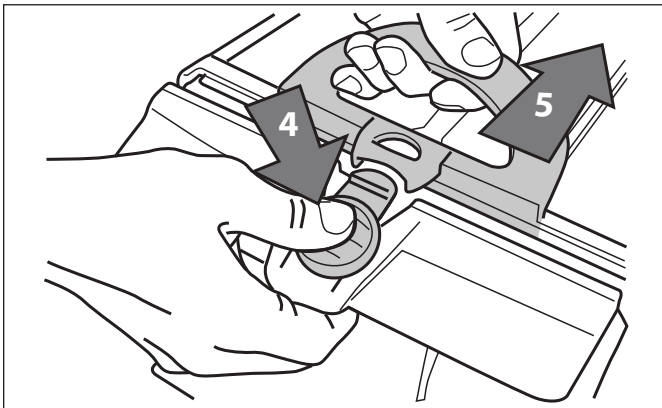

Figure 25. Open Filter Assembly
7. Push the quick release button on the canister assembly (4) and pull open the filter assembly (5). Refer to Figure 25.